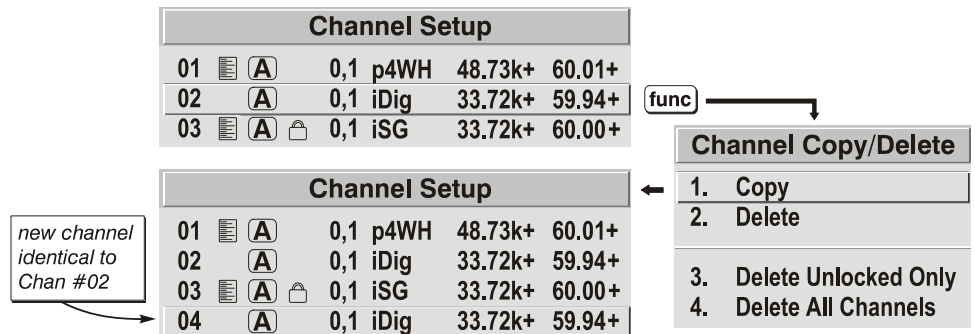

Figure 3.11. Copying a Channel
► **TO COPY A CHANNEL**, highlight the desired channel in the *Channel Setup* menu, then press **Func** to go to the *Channel Copy/Delete* submenu. Select “Copy” and press **Enter**—a new channel will be created. It is identical to original, which still remains, but it is identified with the next available number from 01-50 (Figure 3.11). If you change your mind and do *not* want to copy the current channel, press **Exit** to cancel and return to the previous menu. Copying channels is a quick method for creating numerous channels, each of which can then be edited and adjusted for a variety of presentations in the future.